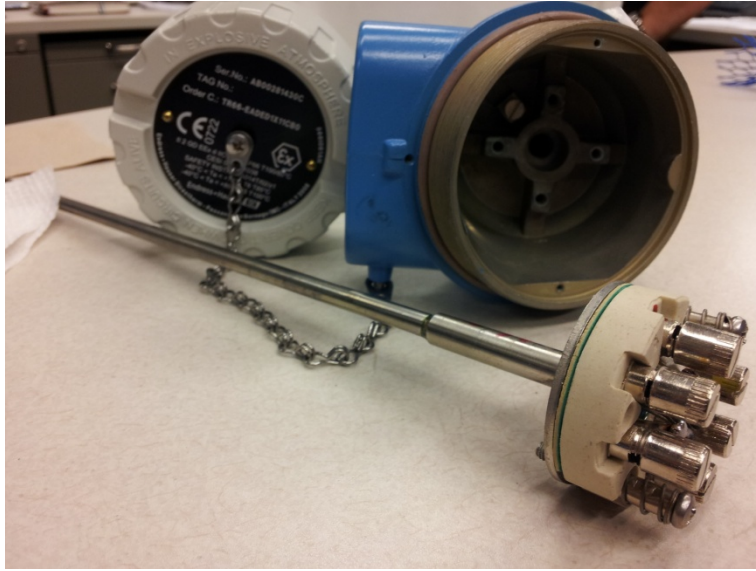

Figure 2-5. Disassembled RTD Terminal Block and Insert
6. Carefully remove the RTD terminal block and insert from the thermowell and RTD assembly (Figure 2-5).